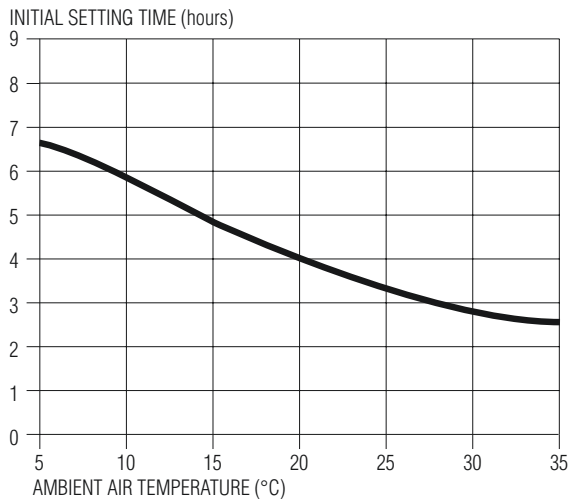

Figure 1: Typical influence of air temperature on setting times of concrete made with Type GP cement
- **Extended Setting Times** The lower rate of cement hydration at low temperatures increases the setting times as shown in **Figure 1**. Combined with the increased time for bleed water to evaporate in low temperatures, concrete finishing operations will be delayed, and this may add cost. If the concrete is finished prematurely, problems may be experienced with delamination (or flaking) and weak, dusty surfaces. The practice of adding cement or cement/sand mixtures to the surface of the slab to use up excess water and allow finishing to proceed should be avoided as it will inevitably lead to poor wear resistance.